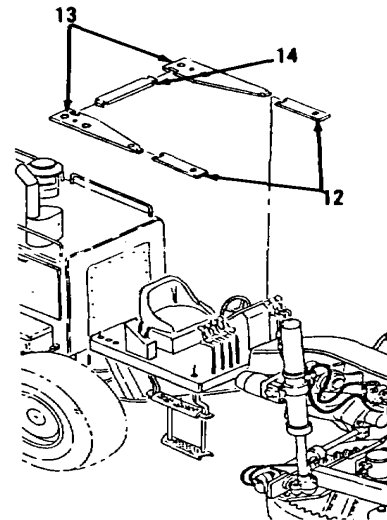

Figure 9-6.
10. Remove two pads (12 and 13) and pad (14, Figure 9-6). Discard two pads (12 and 13).
1. Position pad (14) and two new pads (13 and 12, Figure 9-6).